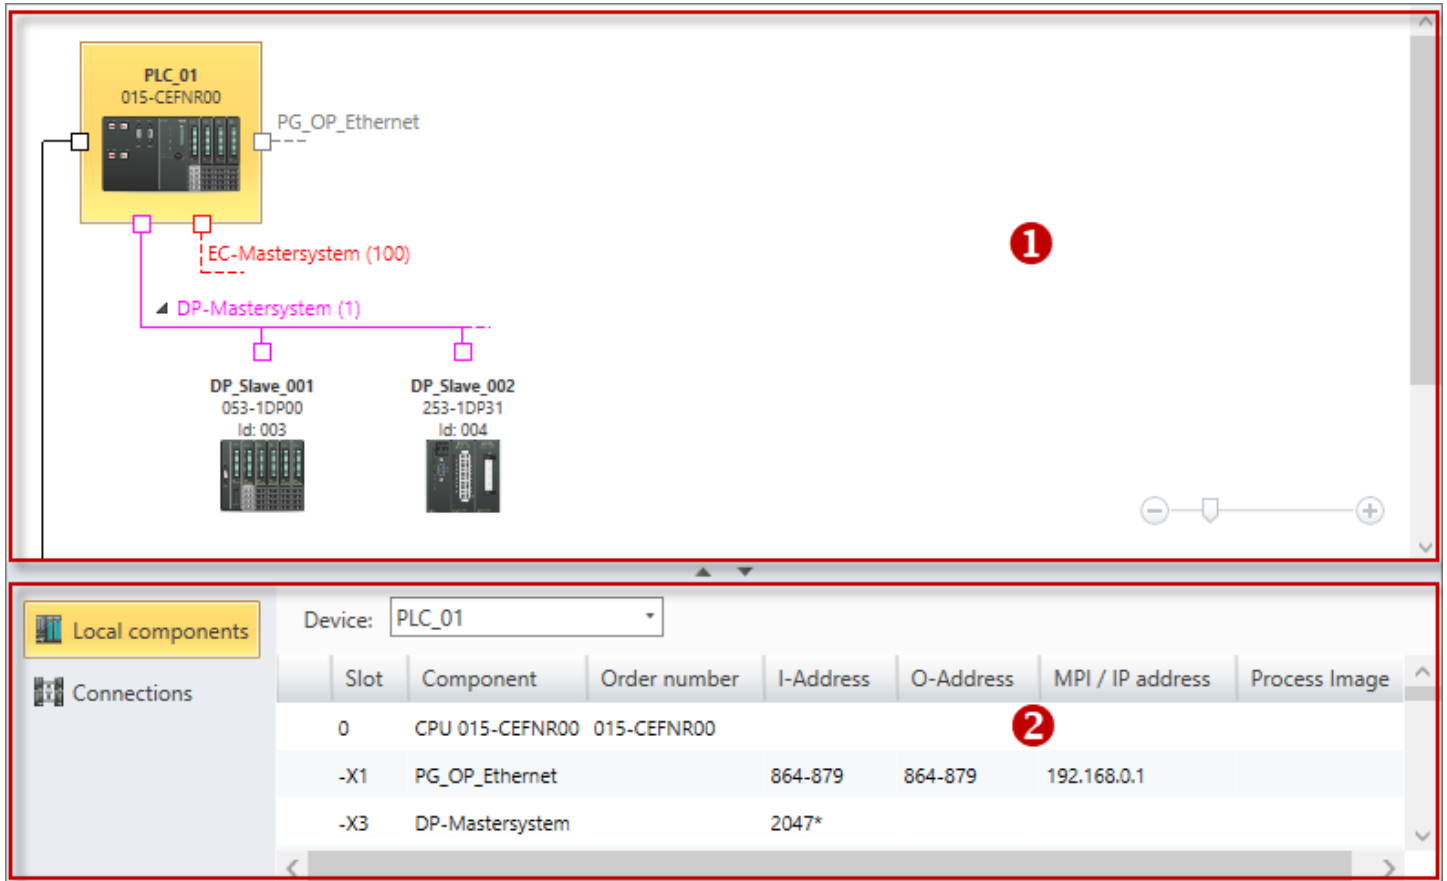

Fig. 49: Devices and networking
- ⇒ The device details for the highlighted device are displayed. Fig. 49